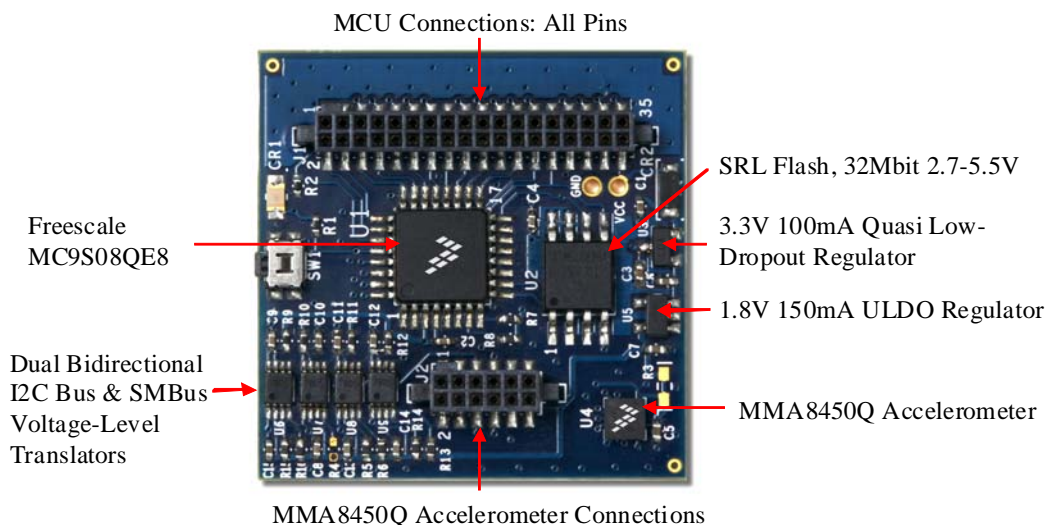

Figure 5. MMA8450Q Sensor Tool Box Demo Board
The following are some important considerations for board layout of the MMA845xQ accelerometer to ensure the best performance. The MMA8450Q has a very tight voltage input tolerance which may call for an extra voltage regulator for some systems. Level translators may be required if the MCU/processor is operating at a higher voltage. Bypass capacitors are recommended on the input voltage pins to ensure a clean signal to the sensor for optimal noise performance. Figure 5, is Freescale's MMA8450Q Sensor Toolbox Demo Board. This is a four (4) layer board. The board was designed to be able to access every pin on both the MCU and on the accelerometer for quick debug. The board has 32Mbit Flash which can be used for data logging and to perform algorithm analysis. The board has an LED and a switch for general purpose functions and a resistor, "R3", that can be cut to measure current drain from the accelerometer. This board was designed as small as possible so that it would be non invasive when mounted on other boards for different applications. The board can plug into an interface board to the PC or to a battery board. The flat back of the board is great for mounting the board with the battery pack onto moving objects to log data. The flat back also allows the board to be easily mounted into other designs. All the accelerometer pins are accessible through the board, bypassing the MC9S08QE8 microcontroller, if another external processor/MCU will be used. For use of the board as a demo board please visit [www.freescale.com/sensortoolbox](http://www.freescale.com/sensortoolbox). The part number of the board is LFSTBEB8450. The software is available on the web site at the link.